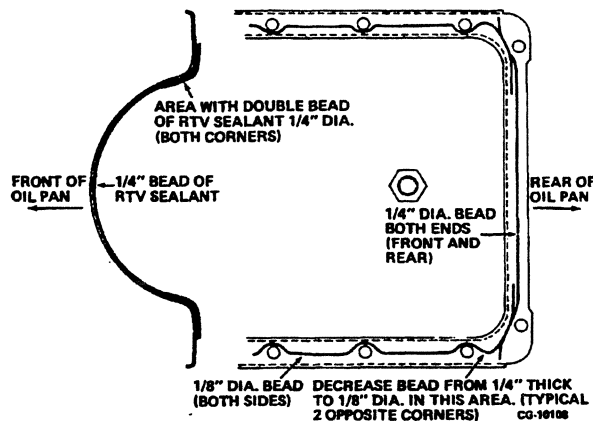

Figure 6.63. Application of R.T.V. on Oil Pan
6. Apply R.T.V. sealant (P/N 446 839 C1) to all pan surfaces as shown in Figure 6.63.